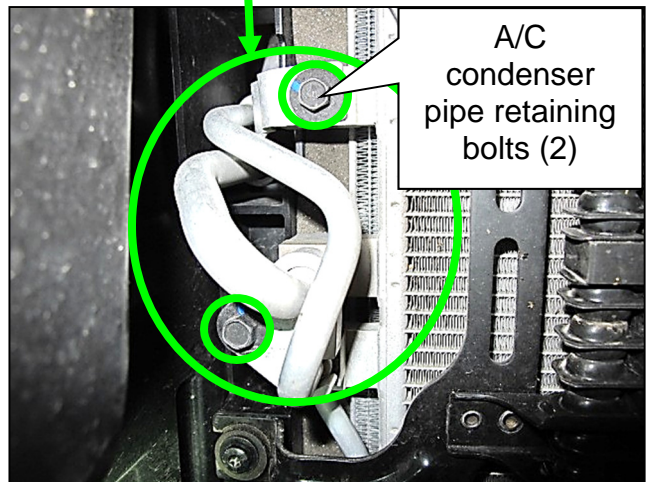

Figure 9
9. Remove the two (2) 10 mm A/C condenser pipe retaining bolts at the A/C condenser, where shown in Figure 9.